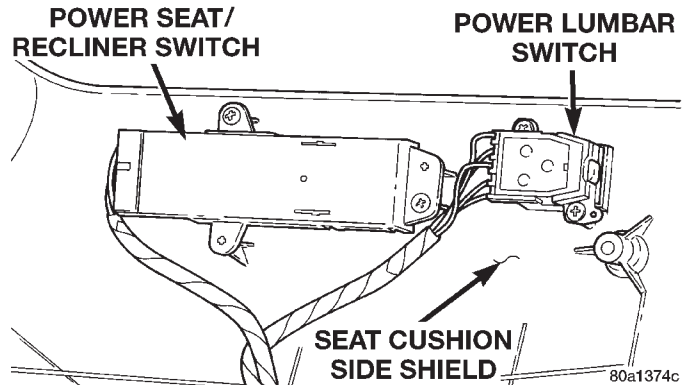

Fig. 3 Power Seat Switches Remove/Install
(1) Disconnect and isolate the battery negative cable.
(2) Using a trim stick or other suitable wide flat-bladed tool, gently pry the power seat and power recliner switch knobs off of the switch stems.
(3) Remove the three screws that secure the seat cushion side shield to the seat cushion frame.
(4) Pull the side shield away from the seat cushion far enough to unplug the switch wire harness connector.
(5) Remove the two screws that secure the switch to the inside of the side shield (Fig. 3).